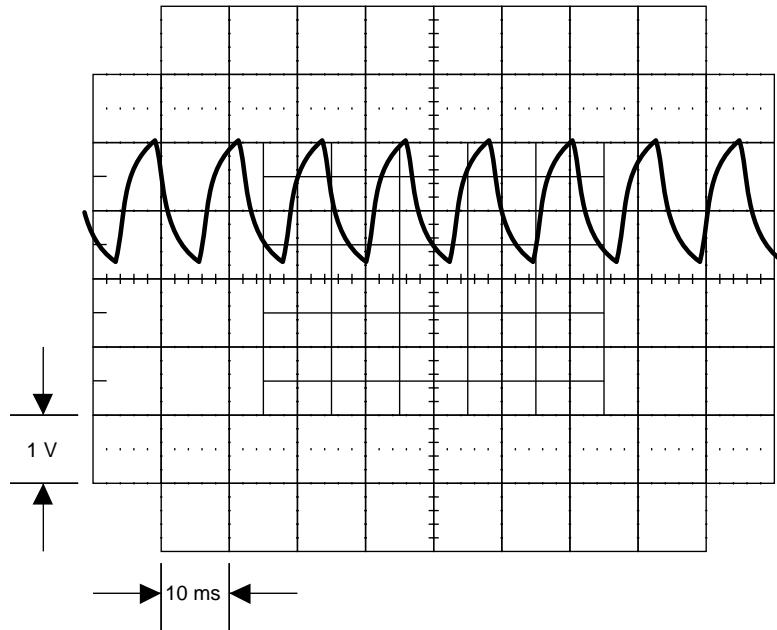

Figure 5-22. Waveform at Pin 10 of U6
1. Check the 8 MHz clock for U6. Connect an oscilloscope to U6 pin 10 (common to TP1). Set the oscilloscope for 2V/div at 100 ns/div and verify the display shows an 8 MHz clock similar to that shown in Figure 5-22. If a failure is detected, check U7 and its associated components. The input signal (CLK and CLK*) to U7 is a low-level (400 mV p-p) 8 MHz clock generated by the Regulator/Guard Crossing assembly.